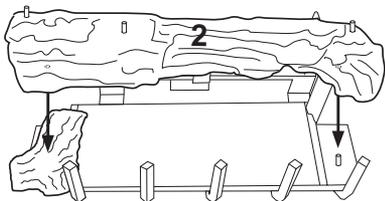

Figure 35 - Installing Log #2, Model CD42M-A
- Rest left side of log #2 (front log) on top of log #1 and right side onto pin located on right side of grate extension (see Figure 35, page 19).